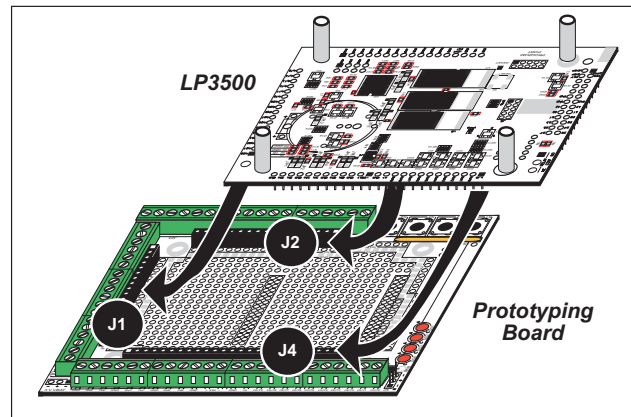

Figure 3. Attach LP3500 Main Board to Prototyping Board
2. Attach the LP3500 main board to the Prototyping Board as shown in Figure 3.